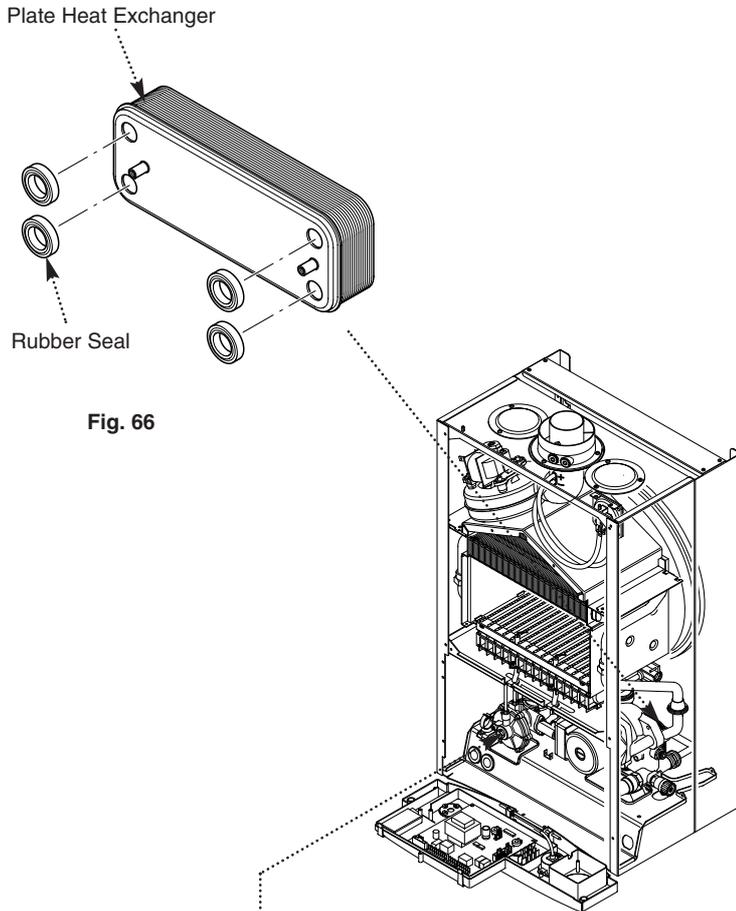

Fig. 66
12.21 Plate Heat Exchanger (Fig. 66)